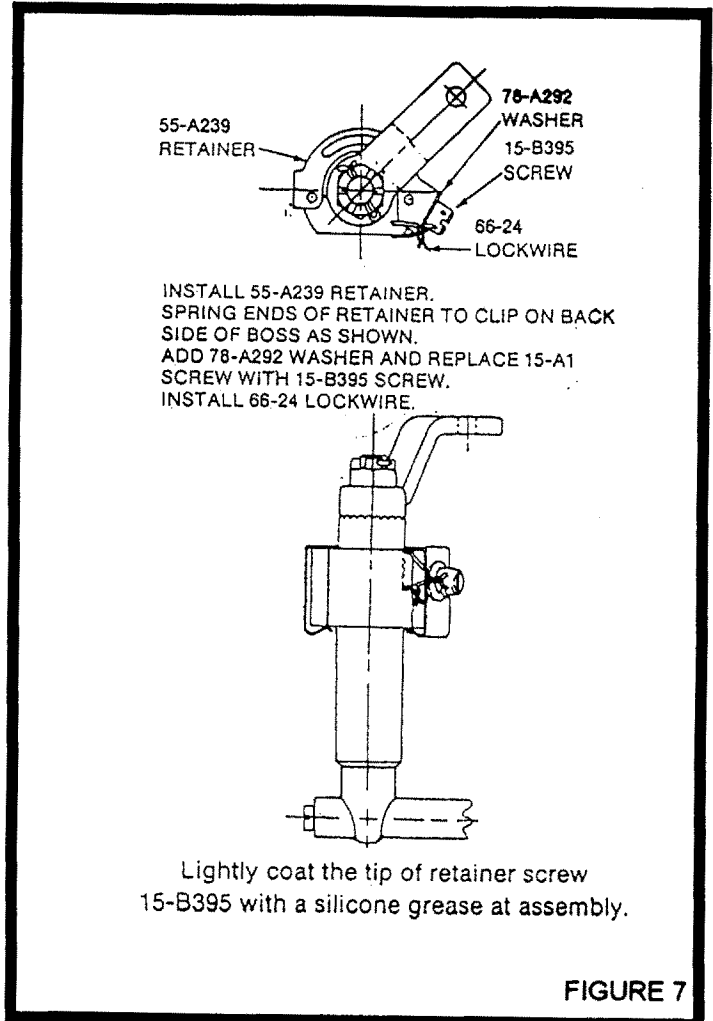

FIGURE 7
- 85) On carburetors using the spring clip mixture control valve retainer, install and lockwire as shown in Figure 7.
- 86) Install mixture control lever (14) to the required angle position and secure with retainer nut (13) torqued to 25-60 inch pounds. Insert cotter pin (61) and safety.
- 87) Install Power Jet (45) and gasket (15). Torque to 25-30 inches pound.
- 88) Install idle needle (34) and spring (24) to preliminary setting 1 to 1 1/8 turns from seated.
- 89) Install throttle adjusting screw (5) and spring (26). Preliminary setting is approximately two turns from fully closed valve.
- 90) Install idle tube (86) carefully, seat firmly. Torque to 5-8 inch pounds.
- 91) Install main nozzle (42) and gasket (21) when used. Torque to 50-70 inch pounds.